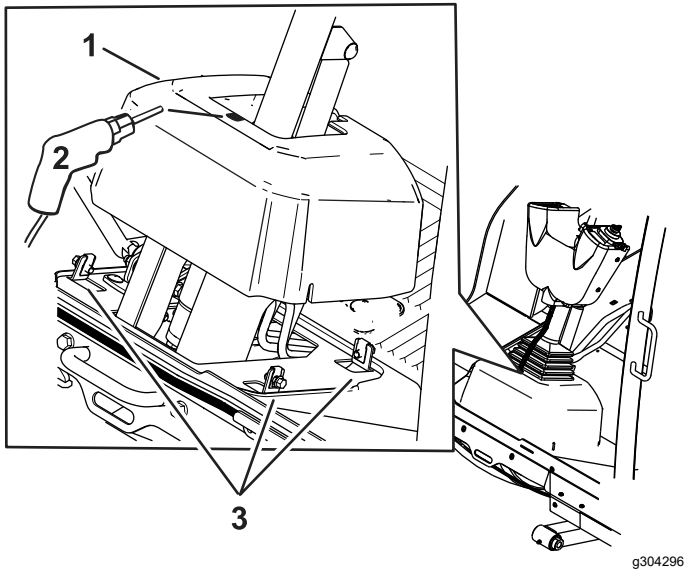

Figure 5
1. Loosen the bolts around the steering-column base (Figure 5)
2. Raise the base up and drill a 22 mm (7/8 inch) hole as shown in Figure 5.
4. Secure the base to the machine (Figure 5).